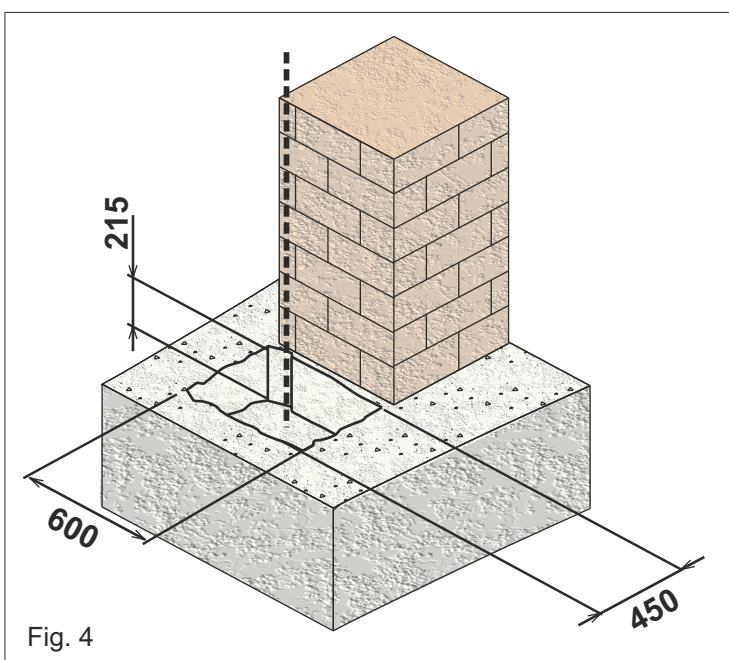

Fig. 4
2.1. Based on the measurements shown in Fig. 4, prepare an excavation inside which the foundation box will be cemented